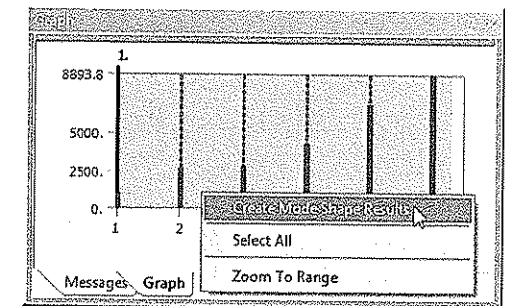

Figure 10-31 The shortcut menu displayed in the Graph window
1. Select the **Solution** node in the Tree Outline; the **Graph** and the **Tabular Data** windows are displayed, refer to Figure 10-31.
2. Right-click in the **Graph** window, a shortcut menu is displayed, as shown in Figure 10-31.
4. Next, right-click again to display the shortcut menu, refer to Figure 10-31.